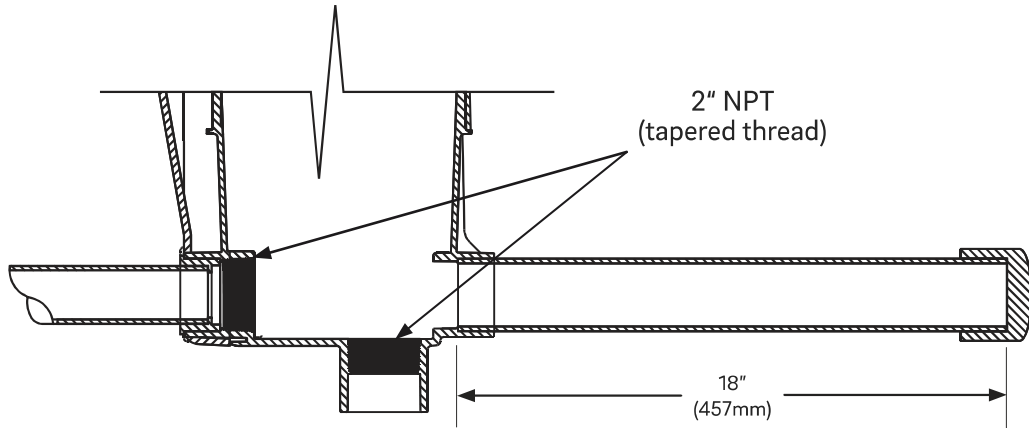
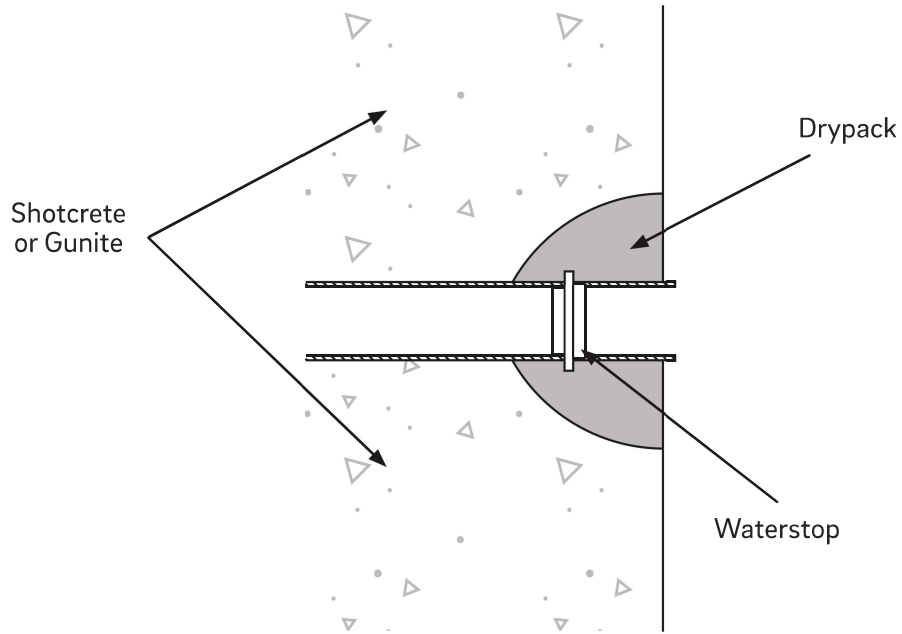

Figure 3
Figure 8
1. Glue an 18 inch length of 2 inch schedule 40 PVC pipe into the discharge port of the QuikSkim located at the lower front, below the mouth of the skimmer. Cap the end to prevent concrete from entering during the shotcrete or gunite process (Figure 3).
- Once the shotcrete is complete, cut the capped pipe that was installed on the venturi discharge line (Figure 3) so that it will be flush with the finished surface. Add glue to the pipe and slide a waterstop (Figure 9c) over the pipe, allowing enough room to dry-pack behind it to ensure a waterproof seal (Figure 8).